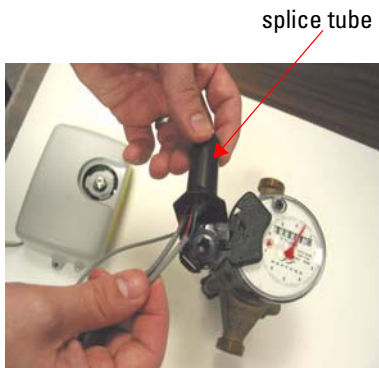

Figure 6 Splice Tube
- 1 Take all 3 connected Scotchlok's and push into the splice tube until fully encapsulated by the silicone grease. (See Figure 6.)